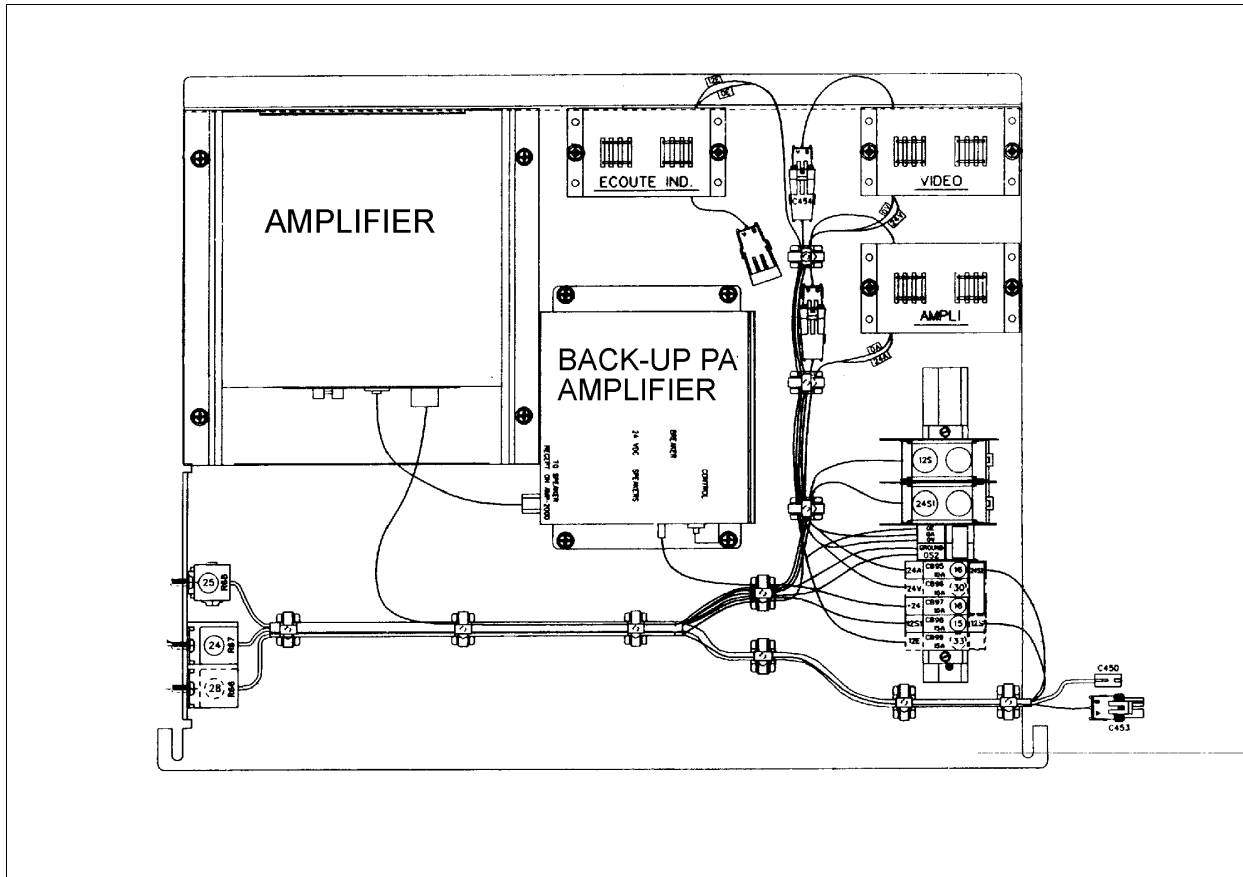

FIGURE 1: SOUND SYSTEM JUNCTION PLATE
The BACK-UP PA AMPLIFIER and its power amplifier are mounted on a sound system junction plate (Fig. 1). They are located over the front wheelhousing. To access, open the first baggage compartment. In addition to the public address (PA) systems, options for AM/FM stereo radio and cassette player, CD changer, karaoke, wire less microphone, video system with monitors and digital processor controller may be featured.